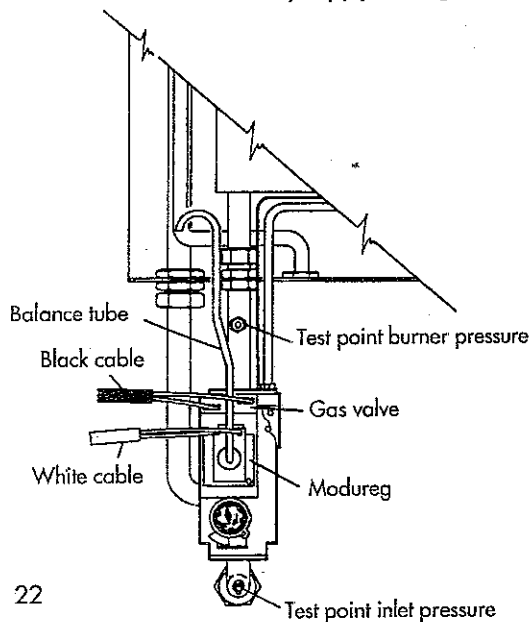

Fig. 22
- Loosen the screw in the burner pressure test point (fig. 22) and attach a gauge.
- e Disconnect one of the wires from the «Modureg» (fig. 22), this will reduce the burner to minimum which should read 2.5 mbar $\pm$ 0.5 mbar. If the burner pressure is not as stated check the inlet pressure (fig. 22) which should be minimum 20 mbar. If that is correct, consult Ferroli. No attempt should be made to alter D.H.W. burner pressure.